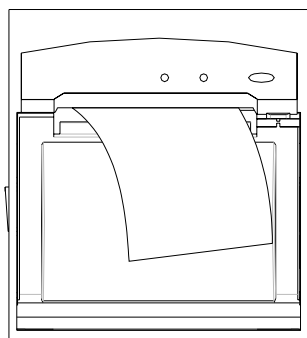

Figure 2-7 Close recorder door
4. Push the press bar back and close the recorder door, as Figure 2-7 shows.